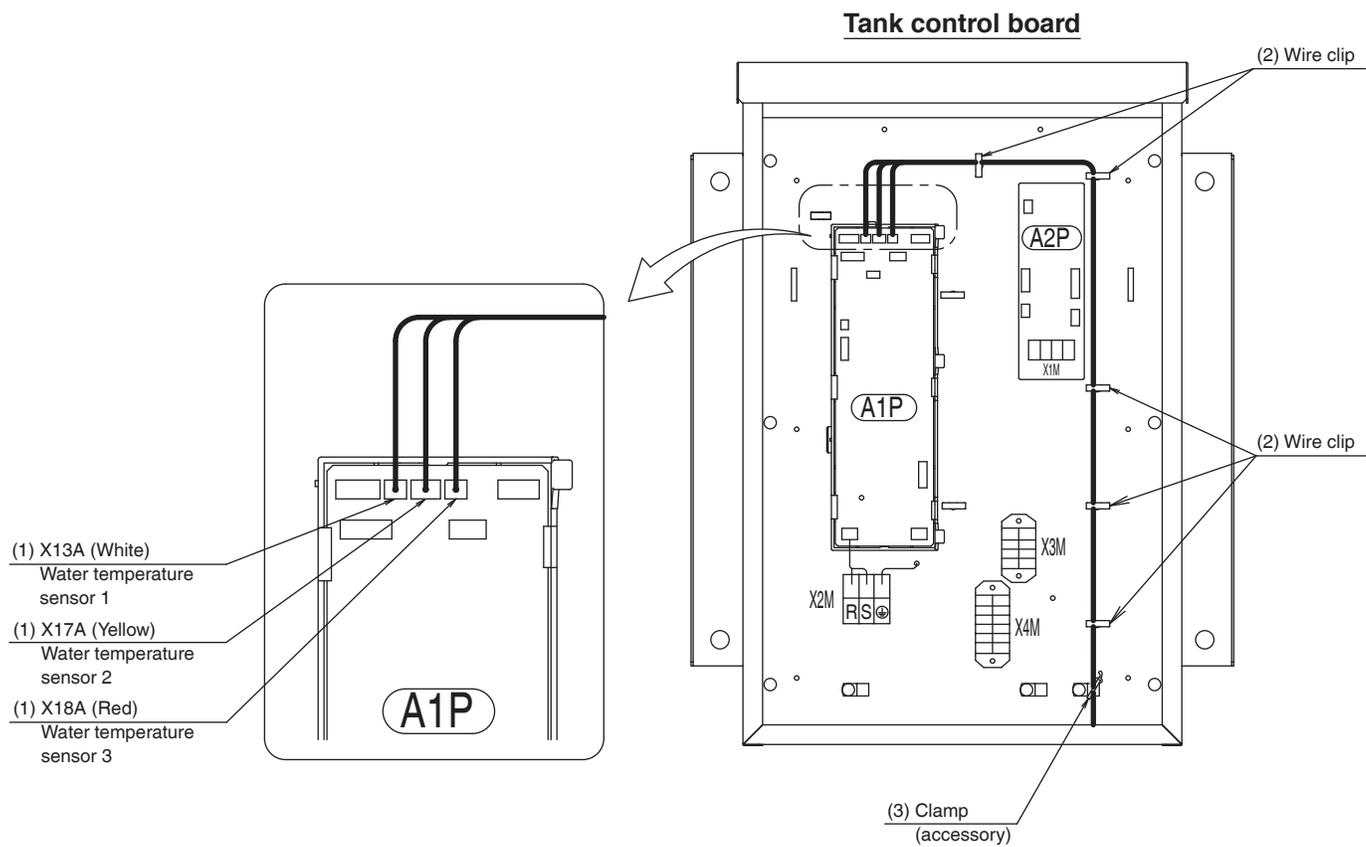

Fig. 6
- (2) Pass the relay wire harness through the wire clip.
(3) For the relay wire harness, secure the clamp (accessory) as shown in Fig. 6 so that no external force is applied to the connector.